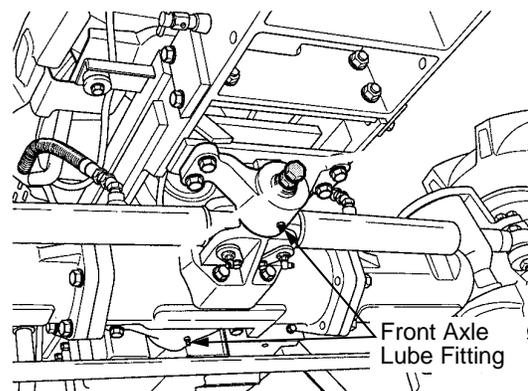

Figure 70
- Front axle pivot brackets (front and back). See Figure 70.